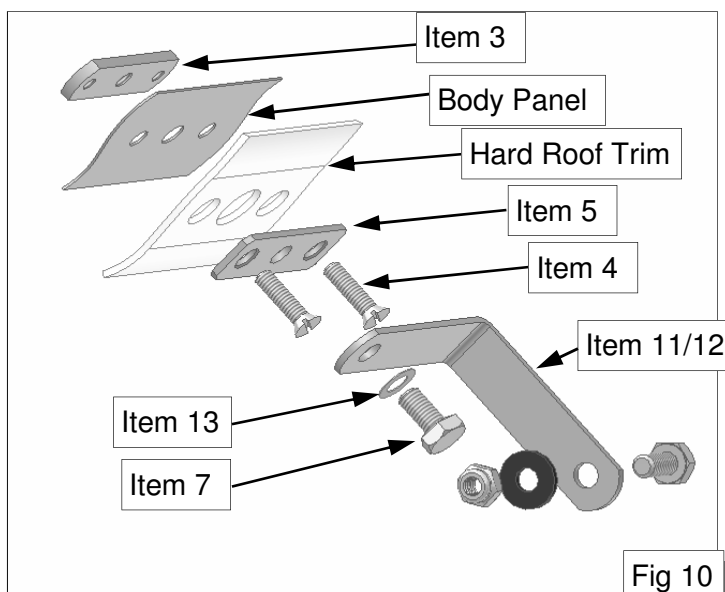

Fig 10
5. Remove the installation tool and square up the ends, tighten CSK screws ensuring that the M10 centre hole is Alined. Assembly has been exploded for alined explanation see (Fig. 10).
3. See Fig 10/14 for Detail.